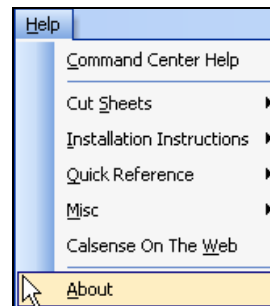

Figure 31.1.3
- Click on **Help** in the toolbar at the top of the screen and scroll down to the word **About** (Figure 31.1.3).